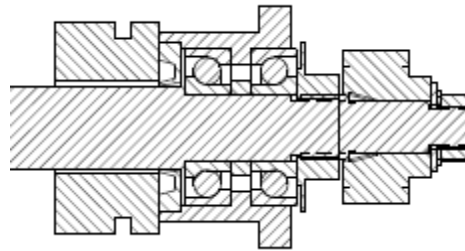

Figure 6.5e
2. Install the angular contact bearings into the housing and seal. The bearings should be installed in the Back-to-Back arrangement as shown in figure 6.5e. Make sure that the inner spacer is between the two bearings. Install the housing assembly loosely into the right side of the X-axis casting.
3. Install the angular contact bearings into the housing and seal. The bearings should be installed in the Back-to-Back arrangement as shown in figure 6.5e. Make sure that the inner spacer is between the two bearings. Install the housing assembly loosely into the bearing block on the Y-axis casting.